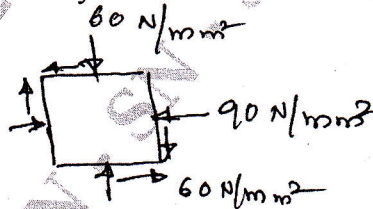

Fig. Q3
- The state of stress in two dimensional stressed body is shown in Fig. Q3. Determine principal stresses, principal planes and maximum shear stress. Also determine normal and tangential stresses on plane AC. Verify results with Mohr's circle.